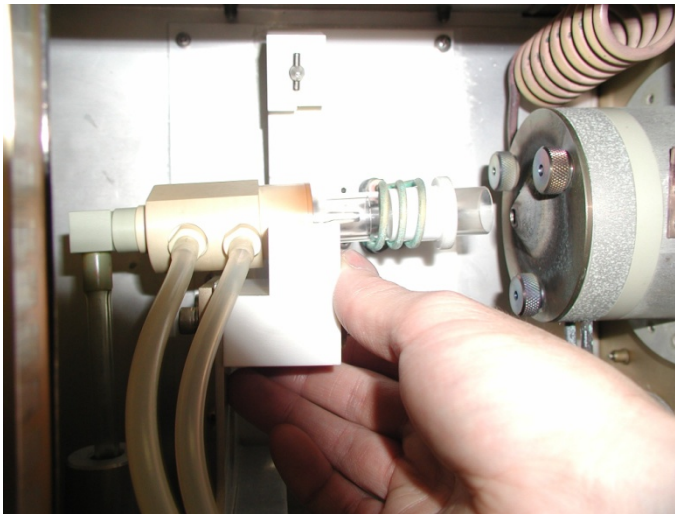

Figure 6. Positioning the clamp so the torch rests in it
- 8** Slide the alignment tool (item 7) over the end of the torch outer tube, and gently push it into the work coil, while moving the torch clamp around until the torch is aligned centrally in the work coil (see Figure 6).